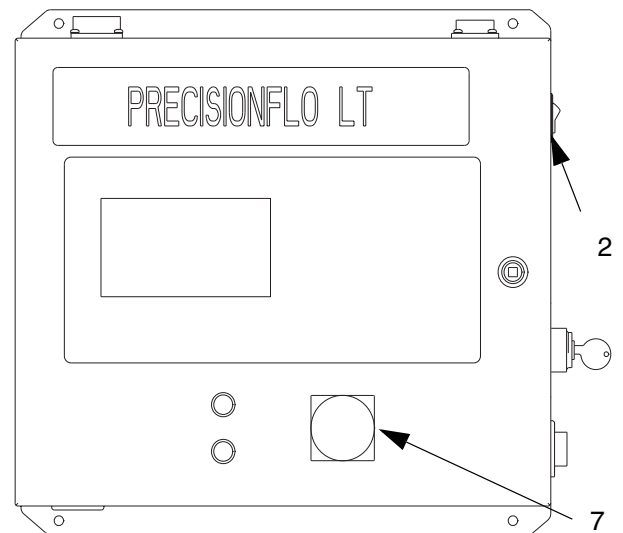

FIG. 19
4. Press the sealer stop button (7). See FIG. 19.
5. Turn off the main electrical disconnect (2).